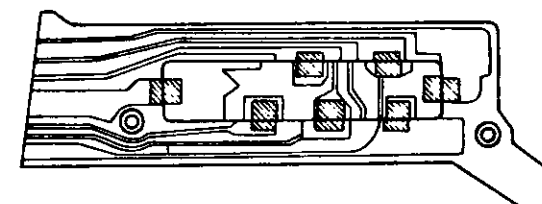

Fig. 6
- 6) Detach seven soldered portions of SPD CIRCUIT BOARD ASSY shown in Fig. 6.